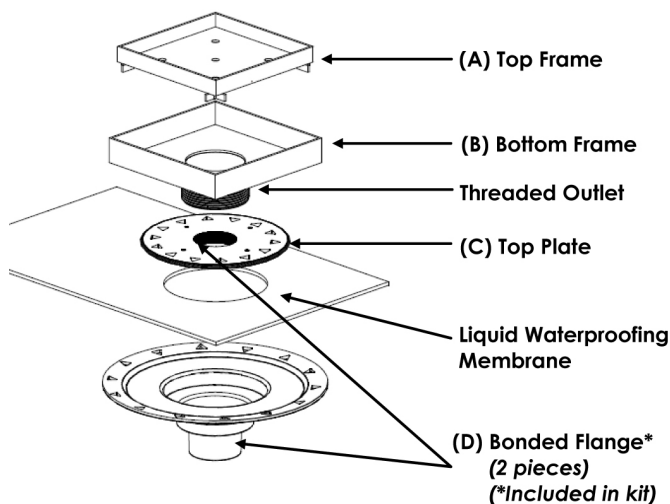
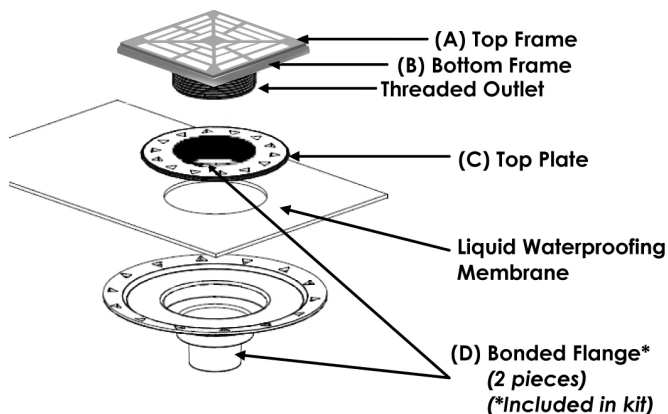

Fig. 1
Fig. 2
Before placing mortar, apply a slurry bond coat made from 254 Platinum. While the slurry bond coat is wet, spread 3701 Fortified Mortar and compact well. Mortar beds shall be 3/4" minimum to 2" (50 mm) maximum. Mortar beds in excess of 2" (50 mm) thick shall be detailed by the architect per TCNA F112. Prior to installing the HYDRO BAN® Bonding Flange Drain make sure the backer board has been installed on the walls following the manufacturer's recommendations. The HYDRO BAN Bonding Flange Drain should be installed per TCNA Method B422. Before installing the HYDRO BAN Bonding Flange Drains make sure the opening in the floor where the waste line connection is made is 4-1/4" (108 mm) in diameter. The lip of the HYDRO BAN Bonding Flange Drain should sit approximately 1-1/4" (32 mm) above the substrate. Dry fit the HYDRO BAN Bonding Flange Drain through the hole and to the waste line below. When connecting to a 2" (50 mm) waste line which is already in place the top of the waste line should be 1-3/4" (44 mm) below the surface of the substrate. Make sure that the HYDRO BAN Bonding Flange Drain is PVC when connecting to a PVC waste line or ABS when connecting to an ABS waste line. Cement the HYDRO BAN Bonding Flange Drain in place using PVC solvent and cement for PVC and ABS solvent and Cement for ABS HYDRO BAN Bonding Flange Drain and waste line connections. Make sure that the HYDRO BAN Bonding Flange is level before the PVC or ABS cement has cured. DO NOT MIX materials, this will cause a failure in the pipe weld. When installed over EGP the bonding flange (D) Fig 1 and 2 can be screwed to the substrate using stainless steel or zinc coated 3" (76 mm) drywall screws. There are four countersunk holes around the perimeter of the bonding flange (D) for this purpose. The installation is now ready to accept the mortar bed.
Installing HYDRO BAN and Tile (Fig. 1 and Fig. 2)
3. Tile walls and floors; when thin-set and tile are ready to be installed around the HYDRO BAN Bonding Flange Drain comb thin-set onto bonding flange (D) and set top plate (C) onto the bonding flange. Thin-set should ooze through the triangle voids in the top plate (C). Scrape any excess thin-set from the top plate (C) using a trowel. As you tile closer to the top plate insert the threaded outlet of the top and bottom frame (A and B) into the top plate (C). Adjust the top and bottom frame by screwing in the threaded outlet to the top plate (C) to allow for height adjustment (fig. 2). Thin-set over the top plate (C) and install tile.
4. If using the tile-in grate with the HYDRO BAN Bonding Flange Drain, remove top frame (A) and prime surface with two coats of HYDRO BAN prior to installing tile within the frame using a polymer fortified thin-set. Make sure that the stainless steel top frame (A) is free of grease, dirt or finger prints prior to applying the HYDRO BAN®.